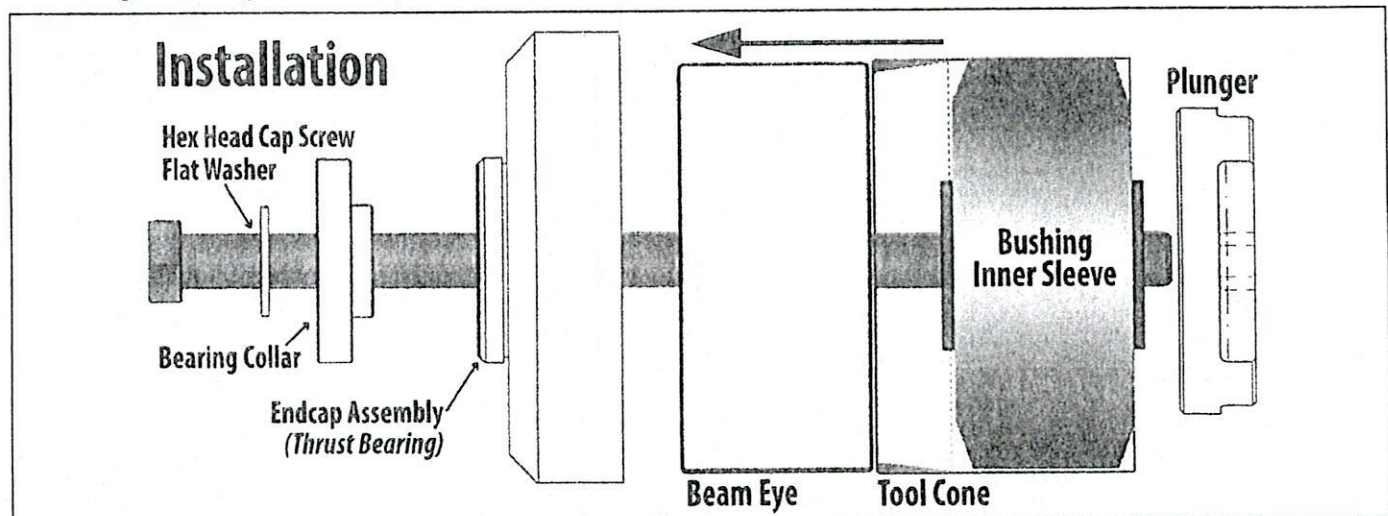

Figure 8.
2. Liberally apply P80[®] lubricant or a soap solution to the inside of the beam eye, the outside of the new bushing and inside the tool cone. Insert replacement bushing into the larger opening of the tool cone (Figure 8).